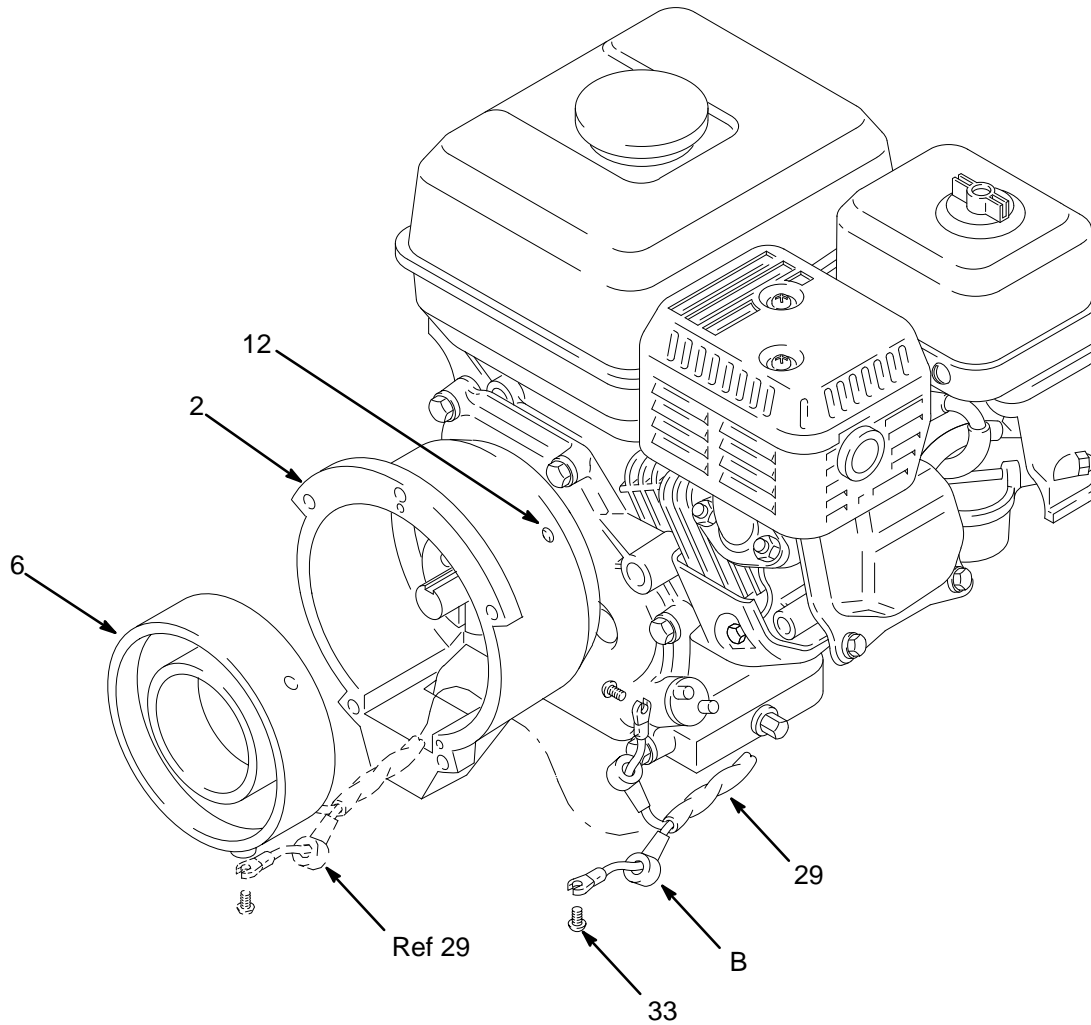

Fig. 26
**NOTE:** Refer to Fig. 26.
2. Loosen the four setscrews (12) holding the field (6) to the clutch housing (2), and pull out the field.
3. Pull the plastic caps (B) off the wire screws (33) in both places on the field. Loosen the screws and release the wires (29).